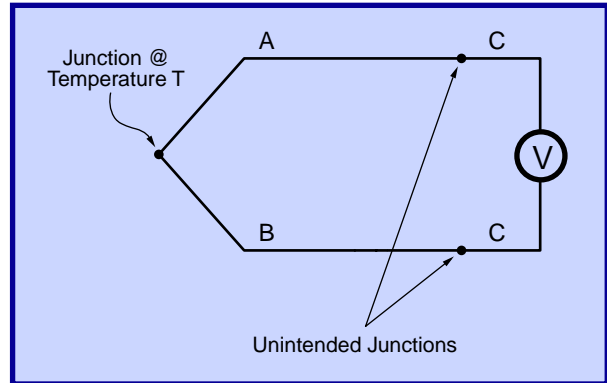

Fig. 2 Additional junctions
A problem arises when measuring the voltage across a dissimilar metal junction—two additional thermocouple junctions form where the wires connect to the voltmeter (Fig. 2). If the wire leads which connect to the voltmeter are made of alloy "C", then there exist thermal EMFs at the A–C and
The second approach to the problem relies on the fact that the voltage across the junction A–C plus the voltage across the junction C–B is the same as the voltage across a junction of A–B. As long as all the junctions are at the same temperature, the presence of an intermediate metal (C) has no effect. This allows us to correct for the voltage seen by the voltmeter in Figure 2 by measuring the temperature at the A–C and B–C junctions, and subtracting the voltage which we would expect for an A–B junction (at the measured temperature). In the SR630, the temperature of the A–C and C–B junctions is measured with a low-cost, high-resolution semiconductor detector, and the subtracted voltage is the tabulated voltage of the A–B thermocouple at the measured temperature of the A–C and C–B junctions. The advantage of this method is that any type thermocouple may be used without having to change compensation junctions or maintain ice baths.